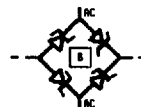

Fig.2
2. Surge current waveform per Figure 3 and Derate per Figure 2.